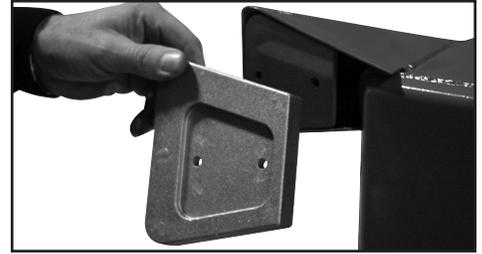

Fig 2a
3. Tilt caddy onto its back (handle down) to install the front foot pads. Note the pads are the same for the left and right foot. **(See Fig. 2a)**